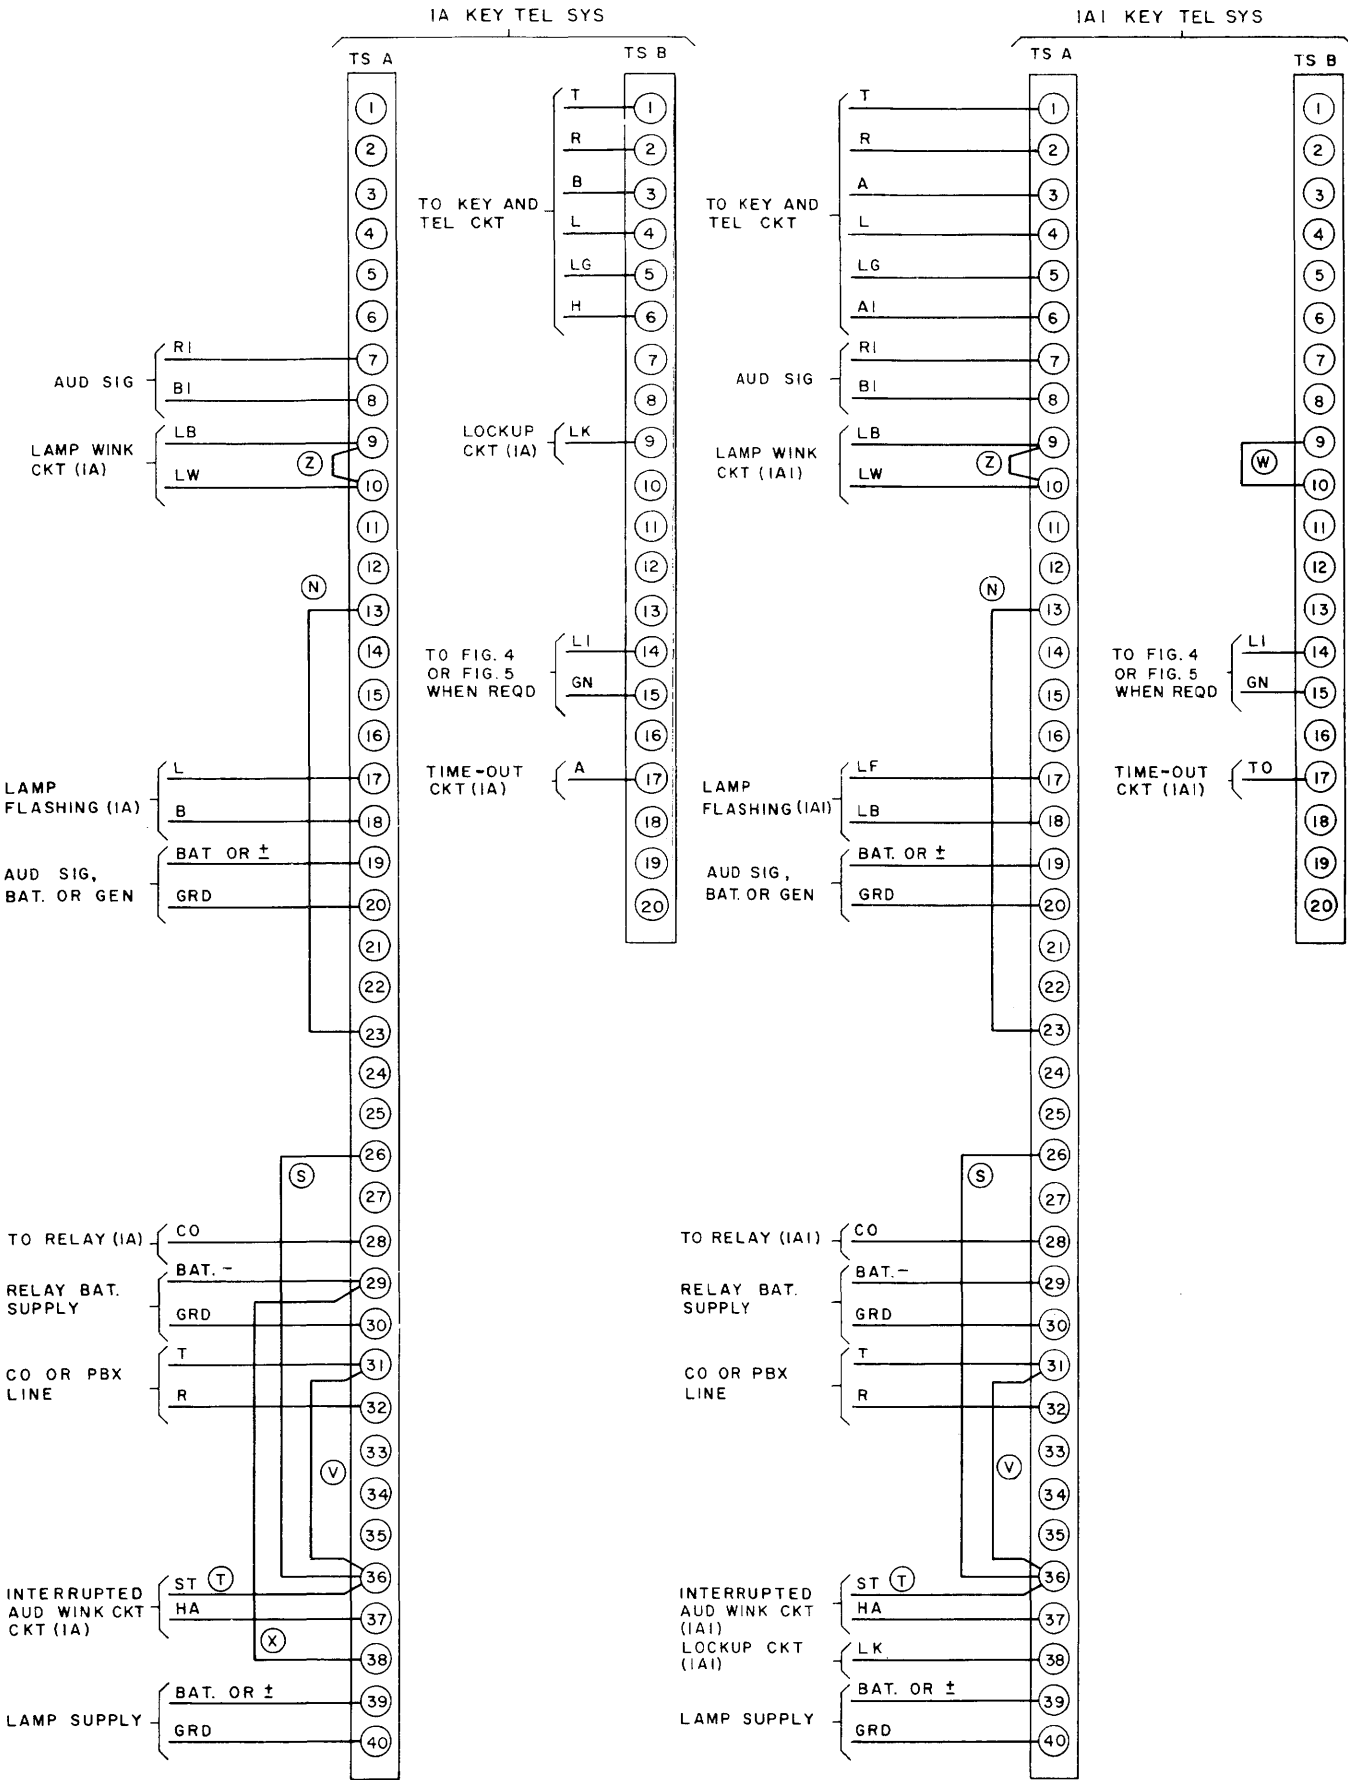

Fig. 6 - 213B KTU Connection Data
2.01 Fig. 6 and 7 show necessary terminations to be made for incoming lines, power supply, straps within and between key telephone units, and key or running cables to the stations.